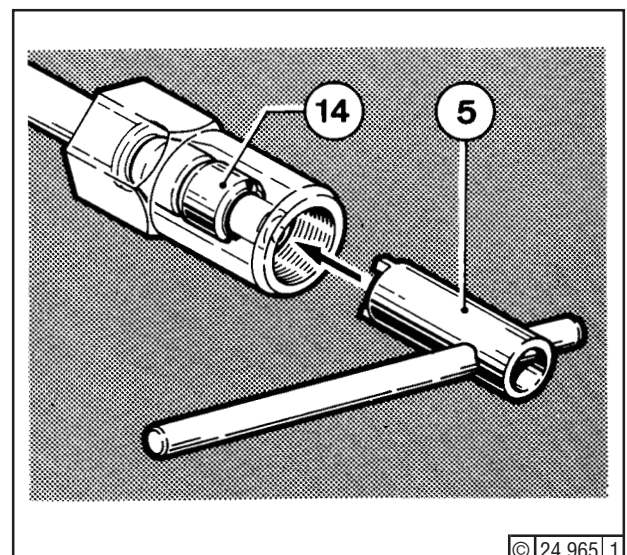

Fig. 2
Before mounting the injection piping, check the clamping sleeves (14) - Fig. 2 - for firm seating by means of socket wrench (5) (left-hand thread!).